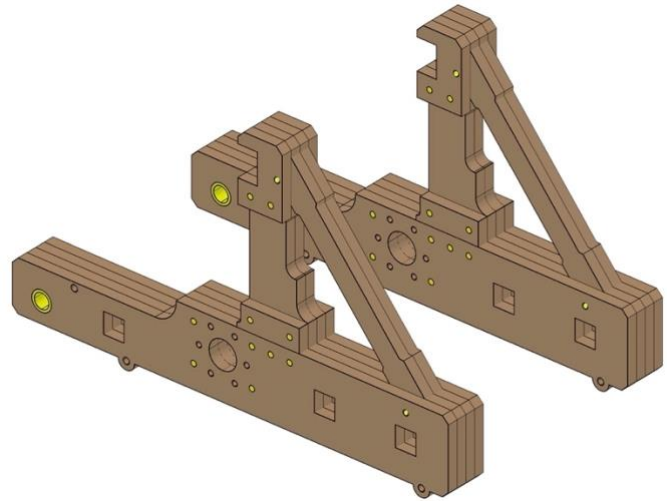

Fig. 18
- *Fig. 18* shows the completed process (make two parts).